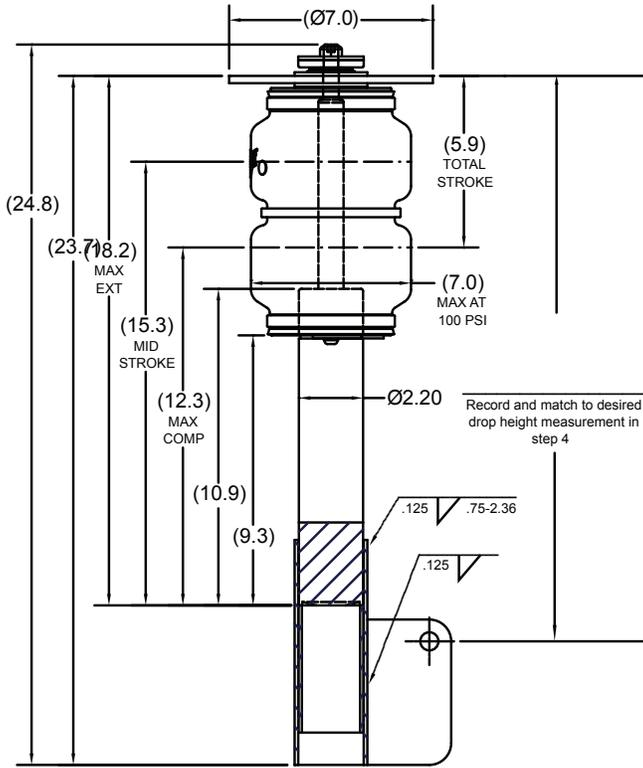

*fig. 6*
- Assemble this bracket to the strut by removing the nyloc nut (B) and rebound washer (C) then install the thrust bearings (D) onto the mount as shown in the figure below. Install the snap ring (F) into the groove. Reinstall the rebound washer (C), rubber side down and nyloc nut (B). (fig. 6)
3. Apply a thin layer of grease to the mating surfaces of the thrust bearings (D). Attach the upper bracket to the air spring as shown in fig 6.